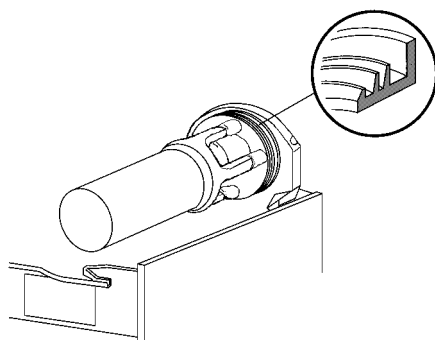

figure 12
- Note: the largest brim of gasket must face against the rear wall (see figure 12).